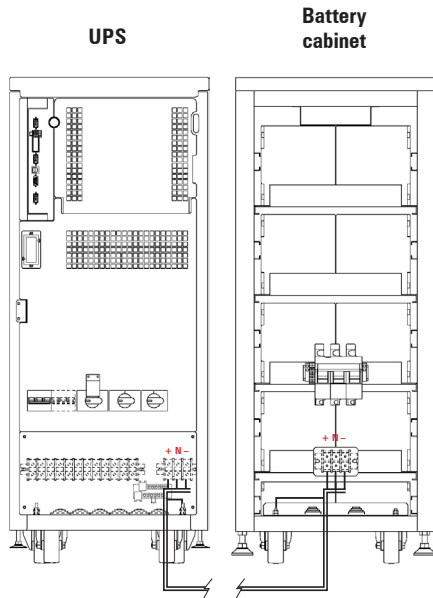

Fig. 33. Connection between UPS and battery cabinet.
- The connection of the battery cabinet with a UPS with power rate higher than 20 kVA (LV) / 40 kVA (HV) or for B1 models, will be done with the supplied cable bundle, by connecting one side to terminals **(X11), (X23) and (X12)** of UPS and the other one to terminals **(X47), (X49) and (X48)** of battery module, always respecting the stated polarity on the labelling of each element and this manual, as well as the colour of the cables (red for positive, black for negative, blue for middle tap (N) and green-yellow for earth bonding), see Fig. 33.